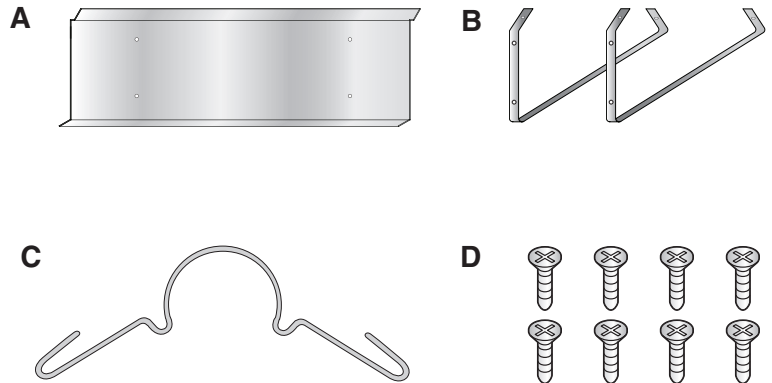

Figure 1 • Side Shield Extension • End View
- 2 Secure 0° mounting brackets (B) to the side shield (A), using the pre-punched holes and screws (D) provided. Ensure that the polished side of the side shield is facing towards the mounting brackets.
- 5 Secure the side shield assembly to the reflector using the screws provided. See final assembly Figure 1.